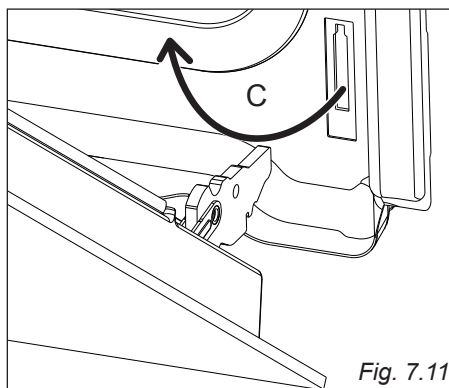

Fig. 7.11
- Withdraw the hinge hooks from their location following arrow "C" (fig. 7.11).